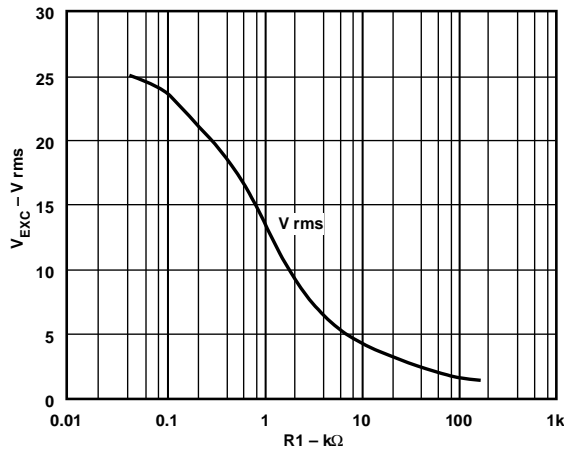

Figure 9. Excitation Voltage V_{EXC} vs. R1
- Referring to Figure 9, for $V_S = \pm 15 \text{ V}$, select the value of the amplitude determining component R1 as shown by the curve in Figure 9.